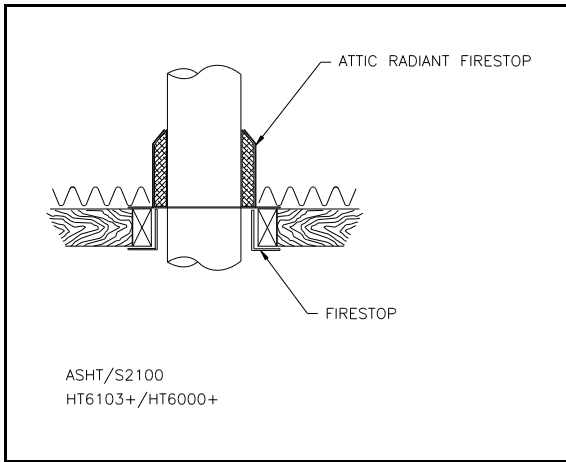
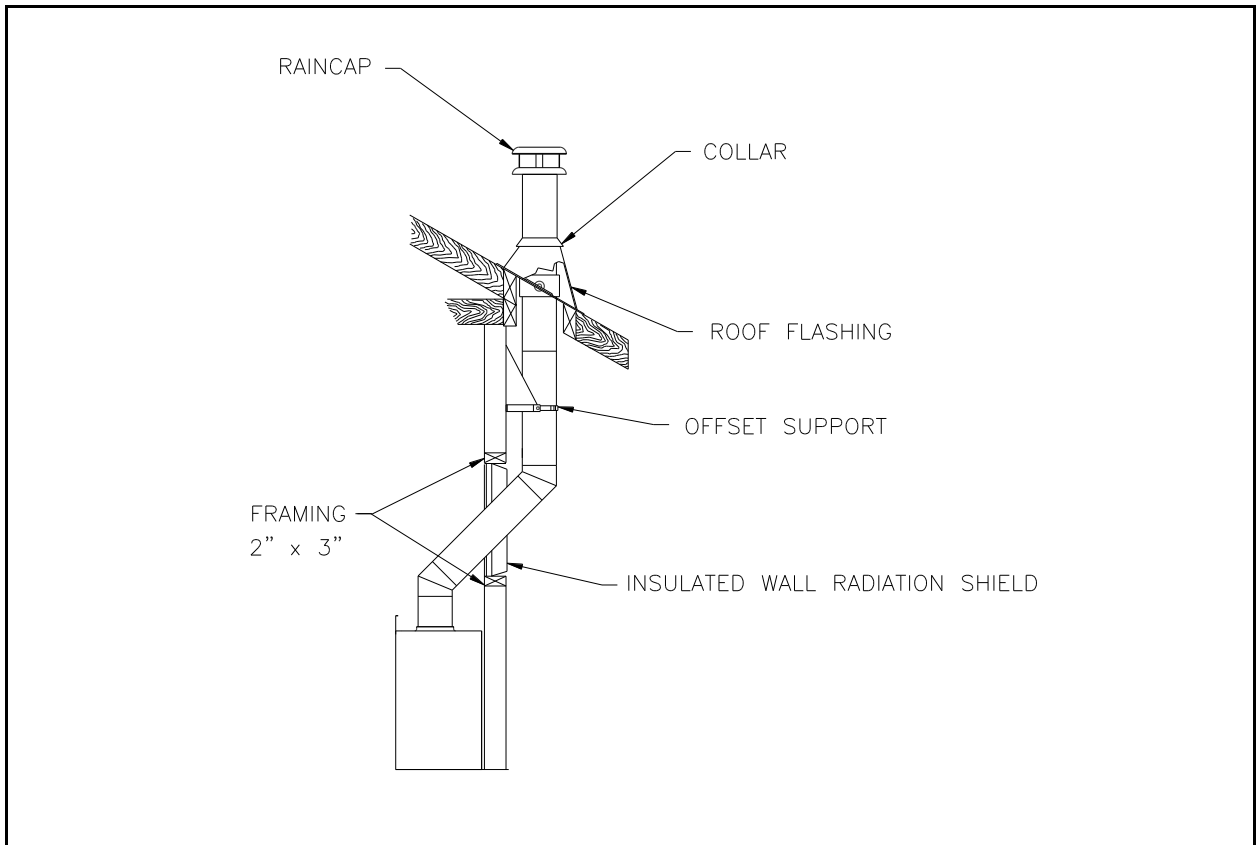

Figure 26
Figure 32
2. From below, install a fire stop in each ceiling/floor separation through which the chimney will pass. At the attic level, install an attic radiation shield from above. (Figures 26 & 27).
1. Install the first elbow; turn it in the required direction. Fasten it to the chimney with the three (3) _" (12 mm) metal screws provided with the elbow.
2. Install the necessary chimney lengths to achieve the required offset. Lock the chimney lengths together: it is recommended to use three (3) _" (12 mm) screws. If the offset length is made of two (2) chimney lengths or more, use an offset support halfway up the offset. If penetrating a wall, install a wall radiation shield (see figures 32 & 33).
3. Use another elbow to turn the chimney vertically. Secure the elbow, using three (3) _" (12 mm) screws (provided with the elbow).
5. From below, install a fire stop (See figure 26).